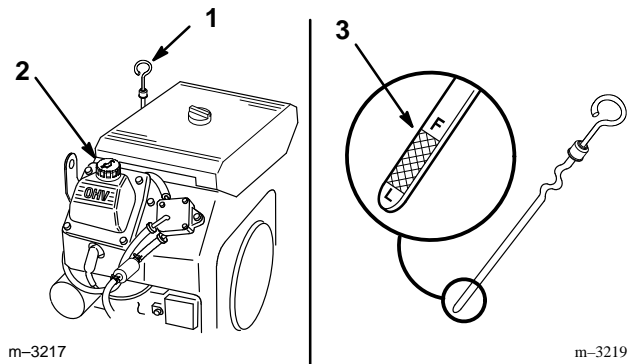

Figure 24
2. Clean around the oil dipstick (Fig. 24) so dirt cannot fall into the filler hole and damage the engine.
3. Unscrew the oil dipstick and wipe the metal end clean (Fig. 24).
4. Slide the oil dipstick fully into the filler tube, but do not thread onto tube (Fig. 24). Pull the dipstick out and look at the metal end. If oil level is low, slowly pour only enough oil into the filler tube to raise the level to the “FULL” mark.
5. Slowly pour approximately 80% of the specified amount of oil specified, page 36, into the filler tube (Fig. 24). Now check the oil level; refer to Checking Oil Level, page 36. Slowly add additional oil to bring to "FULL" mark on dipstick.